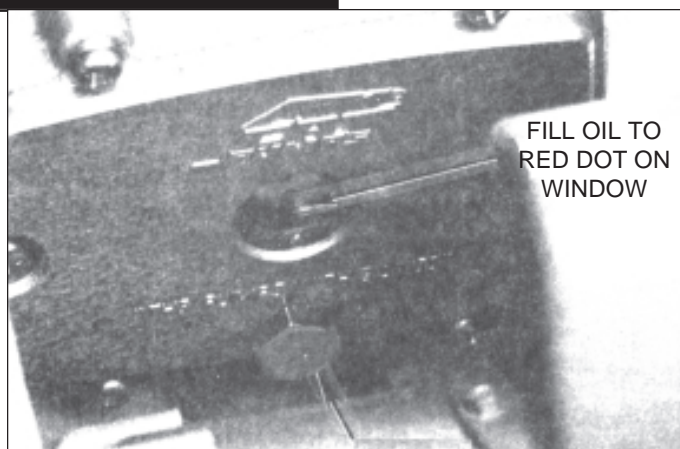

Figure 19
2. Every 60 days of 200 hours, change crankcase oil with CAT OIL - Part Number 9490-2269 (*Figure 19*).